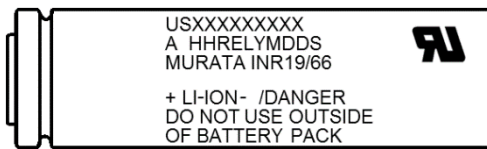
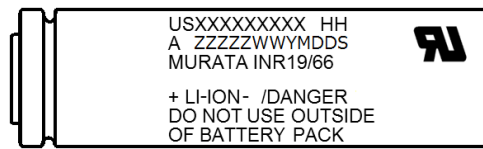

Fig.1
Fig.2
5.2 Model Name(Fig.1, Fig.2 : USXXXXXXXXX)
5.3 Factory(Fig.1, Fig.2 : A for factory code)
【Fig.1】 K : Tohoku Murata Manufacturing Co., Ltd. Koriyama Plant.
【Fig.2】 SG or G : Murata Electronics Singapore (Pte.) Ltd. Tuas Plant.
5.4 Specification(Fig.1, Fig.2 : HH for Cell Type)
5.5 Lot Number(Fig.1, Fig.2: YMDDS for Manufacturing Date of Cells)